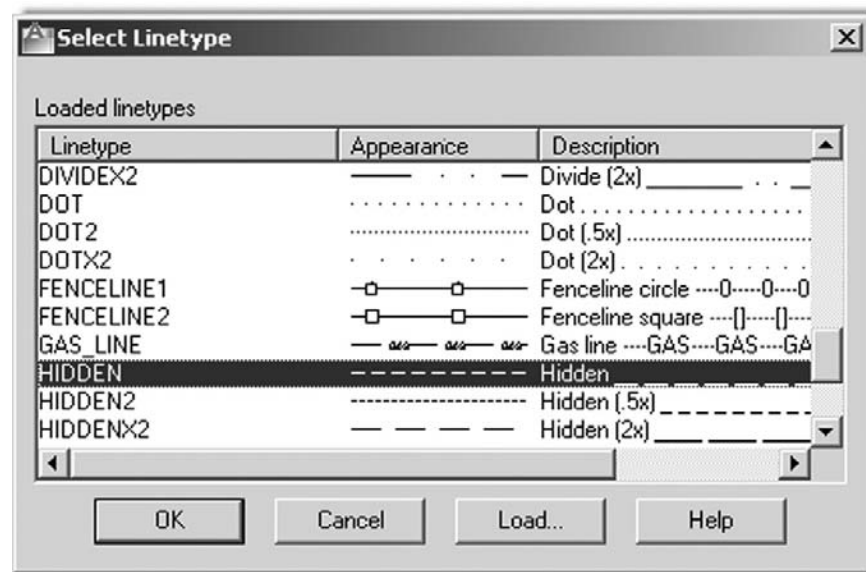

FIGURE 3.9
- Step 3.** Click on the word *Continuous* and the Select Linetype (Figure 3.9) dialog box comes up with all your linetypes preloaded. If we did not load them earlier, the box would be practically empty and we would have to do the loading at that point.